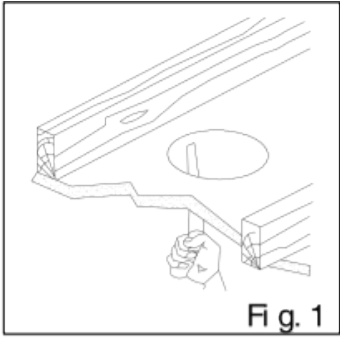

Fig. 1
1. Cut a diameter $\varnothing 106\sim 115$ mm hole in the ceiling. (Fig.1)